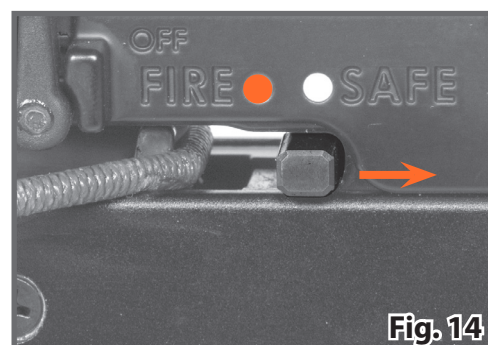

Fig. 14
2. Slide the safety switch from the FIRE position to the ON SAFE position. (Fig. 14)